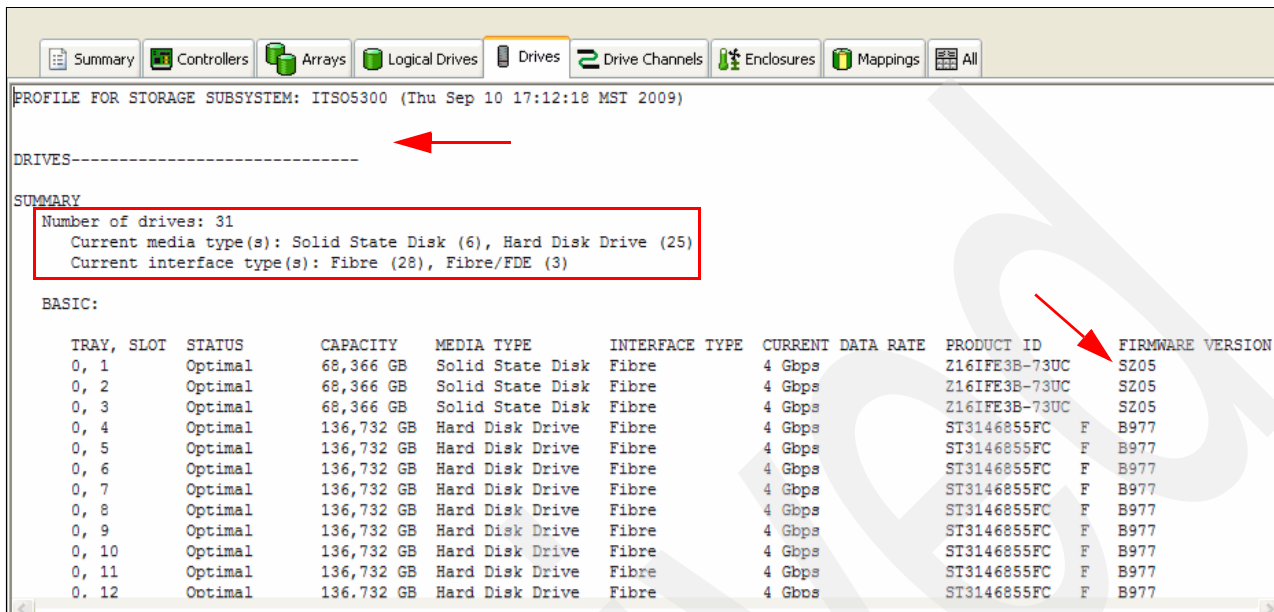

Figure 7-3 Viewing the drives' firmware
- Click the **Drives** tab to see the drives' information. Scroll to the right side of the window until the column Firmware Version is visible. Be aware that you might have different drive types in your enclosures, so you can find multiple versions. See Figure 7-3.